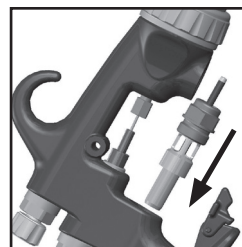

Fig. 35
10. Insert air valve assembly into gun and carefully feed over the spring and through the rear seal. (See fig 35)